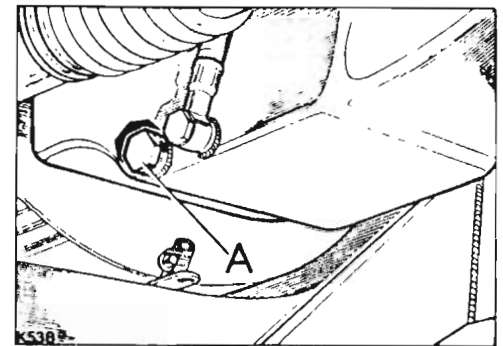

Fig. 2. Engine sump drain plug
Run the engine to warm up the oil, then stop. Remove the drain plug (A) Fig. 2 in the right-hand side of the sump. Allow the oil to drain away completely and replace the plug.